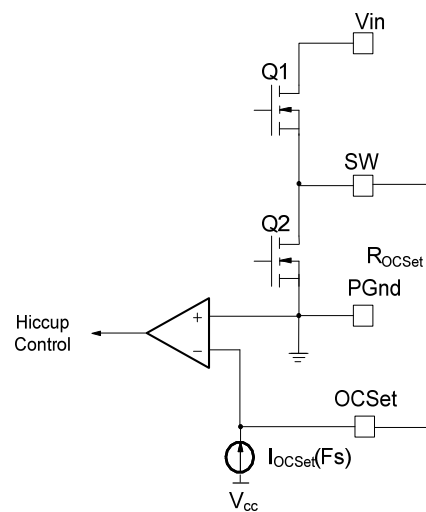

Fig. 7. Connection of over current sensing resistor
The over current protection is performed by sensing current through the RDS(on) of low side MOSFET. This method enhances the converter's efficiency and reduces cost by eliminating a current sense resistor. As shown in figure 7, an external resistor (ROCSet) is connected between OCSet pin and the switch node (SW) which sets the current limit set point.